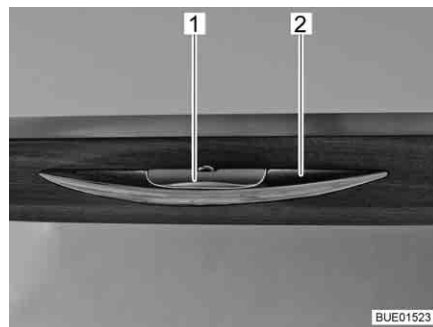
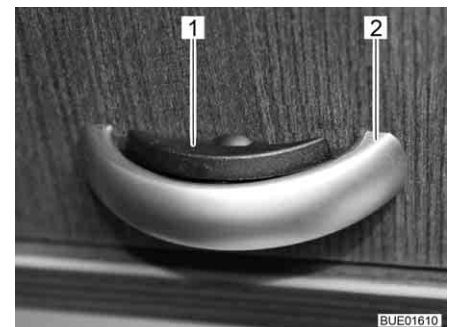

Fig. 73 Furniture flap with release handle
Fig. 74 Furniture flap with release handle (alternative)
- Press the release handle (Fig. 73,1 or Fig. 74,1) and hold it down.
- Pull the handle (Fig. 73,2 or Fig. 74,2) until the furniture flap is open.